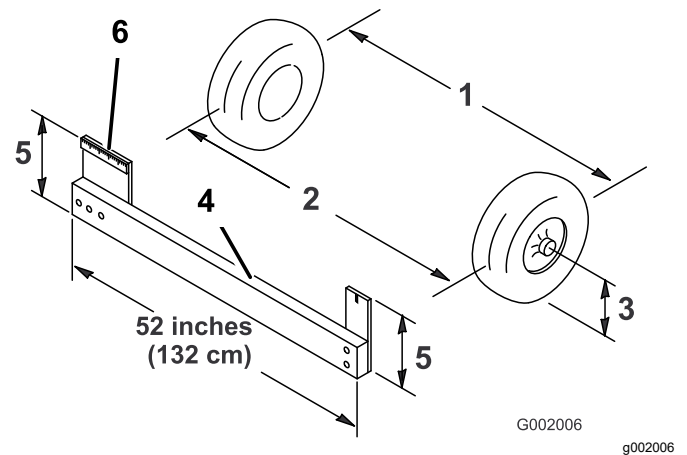

Figure 50
4. Measure the distance between both the front tires at the axle height at both the front and rear of the front tires (Figure 50).
Note: You will need a fixture or alignment gauge for measuring the rear of the front tires at axle height. Use the same fixture or alignment gauge to accurately measure the front of the front tires at axle height (Figure 50).